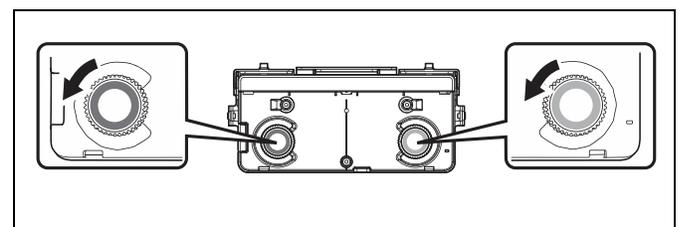

Figure 38
7. Turn the adjustments dials on the touch sensor counterclockwise just until you hear a click. Do not over-turn. (See Figure 38)